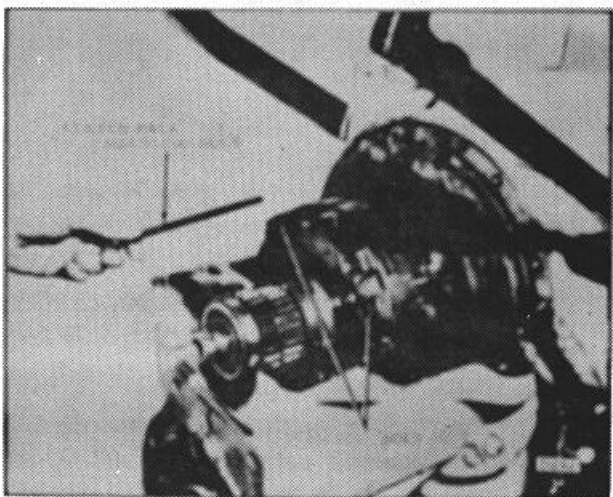

Figure 7.
**NOTE:** There are four groups of three bolts in the clutch pack. The center bolts in each group are assembly bolts (Fig. 7) and hold the pack together. The other eight screws hold the clutch pack to the converter output shaft. Do not remove the assembly bolts at this time; otherwise the pack will fall apart.